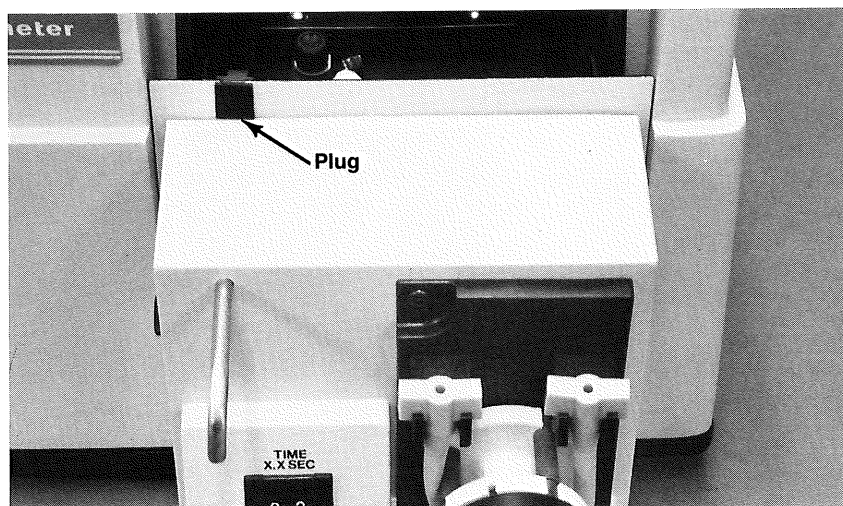

Figure 16.
11. Cover the hole for the outlet tubing using the plug, as shown in Figure 16. Put on the sample compartment cover for the sipper and close it. Plug in the instrument and allow the instrument to complete the power up. Remove the sample compartment cover and the plug.
When the sipper is removed from the instrument, use the plug, provided, to cover the hole for the outlet tubing. See Figure 16.